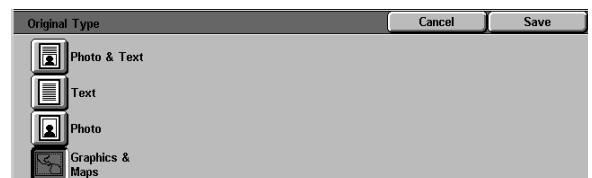

Figure 11: Graphics & Maps button selected
- 2 Touch the **Graphics & Maps** button, as illustrated in Figure 11.